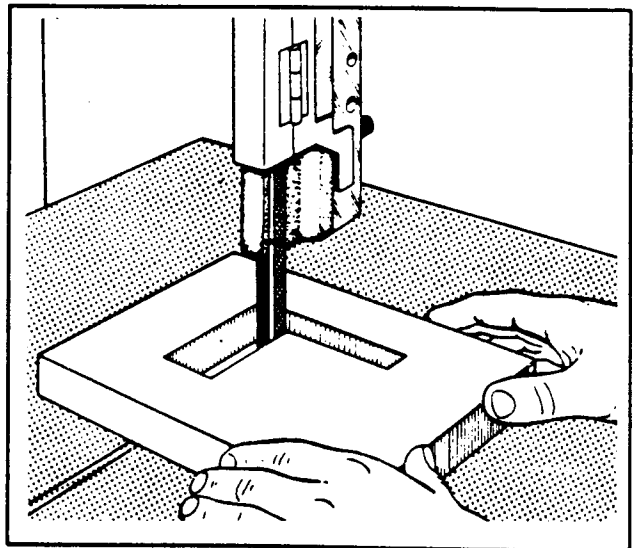

FIG. 51. INTERNAL BAND FILING.
- (1) Release band tension. Remove band from wheels and separate it by bending joint to approximately 12 inches (300 mm) radius.
- (2) Use left forefinger to depress yellow segment front end. Use right thumb and forefinger to disengage dowel. Slide lock rivet to slot open end and remove.
- (3) Run band through workpiece and re-assemble. Place band over wheel tires, apply tension, and check alignment. See Fig. 51.